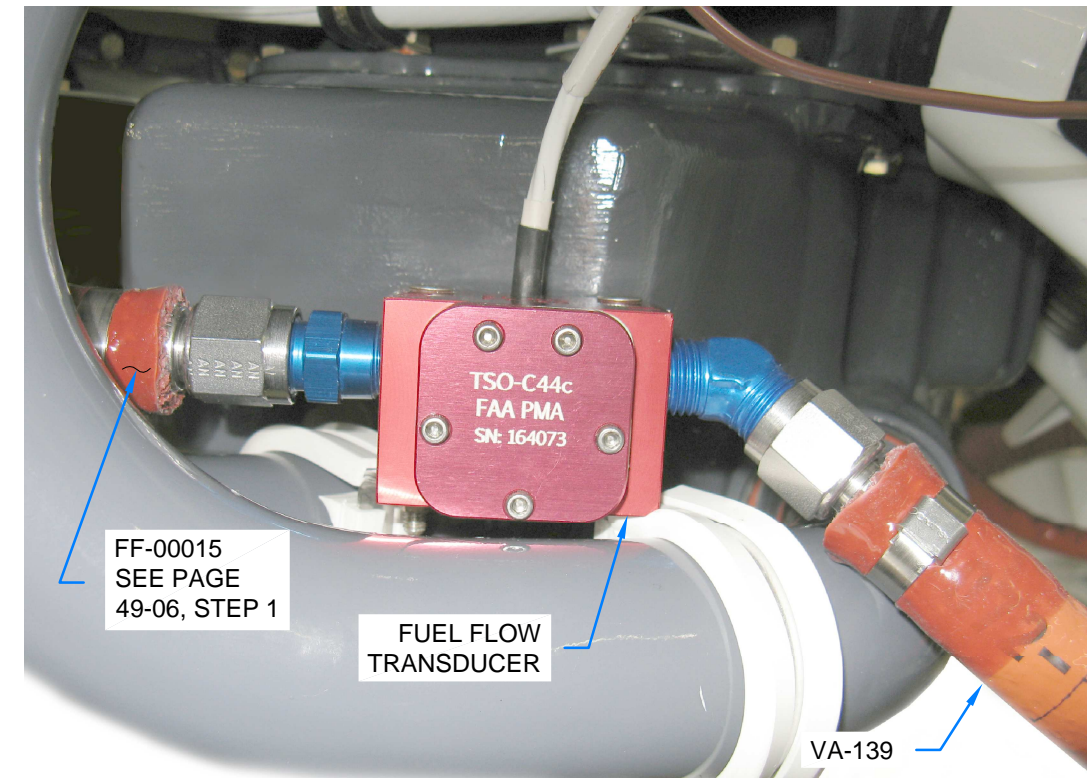

FIGURE 3: CONNECTIONS AT FUEL FLOW TRANSDUCER
Step 3: (Tail Dragger) Attach the free end of the VA-139 Hose to the 45 degree elbow at the aft side of fuel flow transducer as shown in Figure 3.